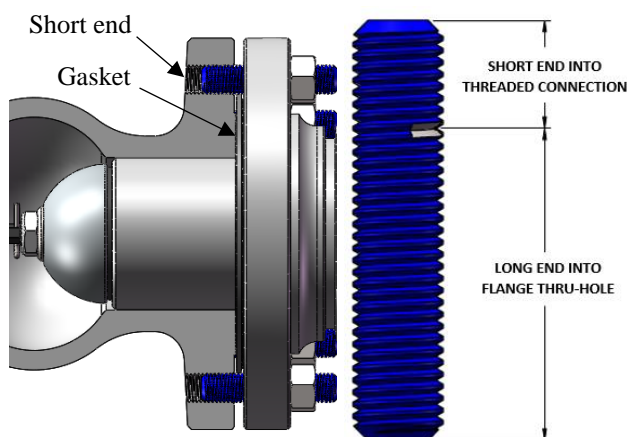

Figure 3: Thread-mount Stud installed
1. Place (1) spiral gasket onto inlet flange of internal valve. Install shorter thread-mount studs into bell housing as shown in Figure 3; install flange nuts onto studs and tighten in a star pattern to ensure even compression.